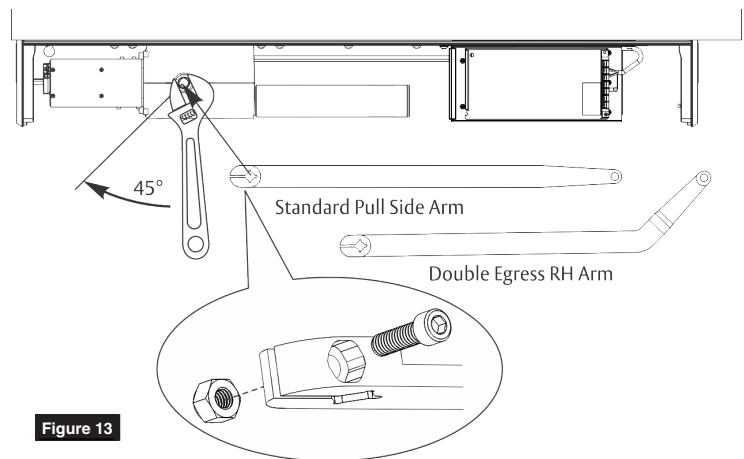

Figure 13
1. Using an adjustable wrench, rotate top pinion 45 degrees toward door hinge. You will feel resistance from spring. (Figure 13)
2. **While holding pinion at 45 degrees,** slide arm on bottom pinion at orientation shown. (Figure 13)
3. Using hex wrench, secure arm to pinion with screw and nut. (Figure 13)